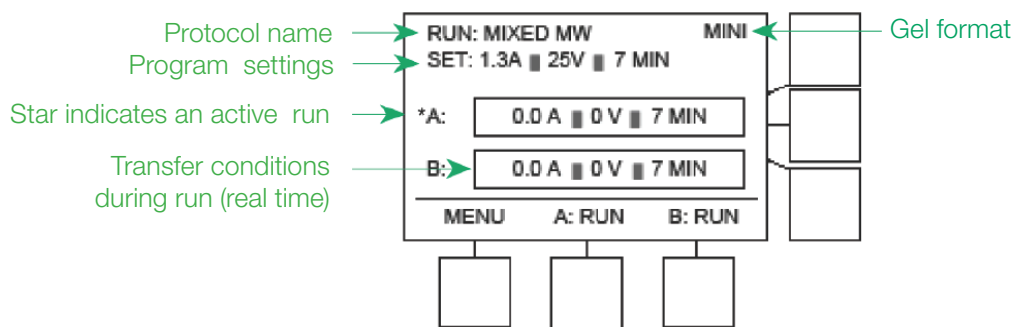

Fig. 13. Transfer Turbo Run screen.
4. Press the Navigation button that corresponds to A:RUN for the cassette in the upper bay or B:RUN for the cassette in the lower bay (Figure 13). A beep will sound to signal the start of the transfer for the chosen cassette. If you are running both cassettes, press the button to begin one transfer (either A:RUN or B:RUN), and then press the other button at any time during the run to immediately start the second cassette. Both cassettes must use the same protocol.